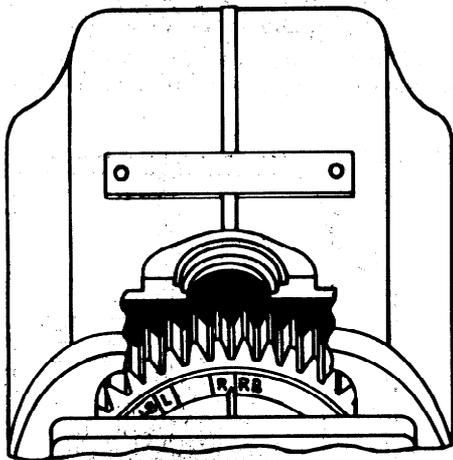

Figure 5. Alignment of Timing Marks on Distributor Gear — 6 Cylinder, Retard Breaker, Right Hand Rotation
c. Six cylinder, retard breaker types — The timing rib on the distributor block **MUST** lie between the "L" and "LB" or the "R" and "RB" marks on the gear, and should be nearer to the "LB" or "RB" mark, depending on magneto rotation. (See figure 5.)